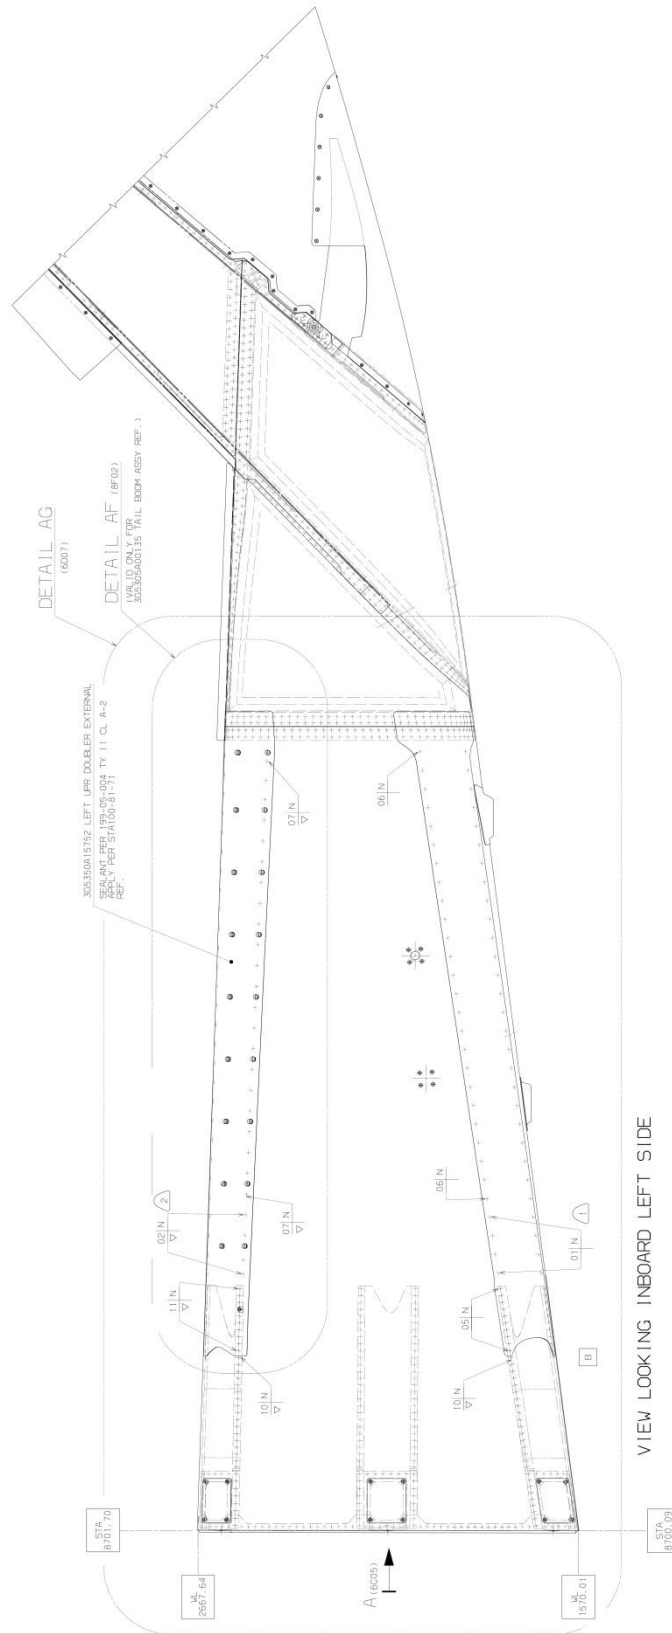
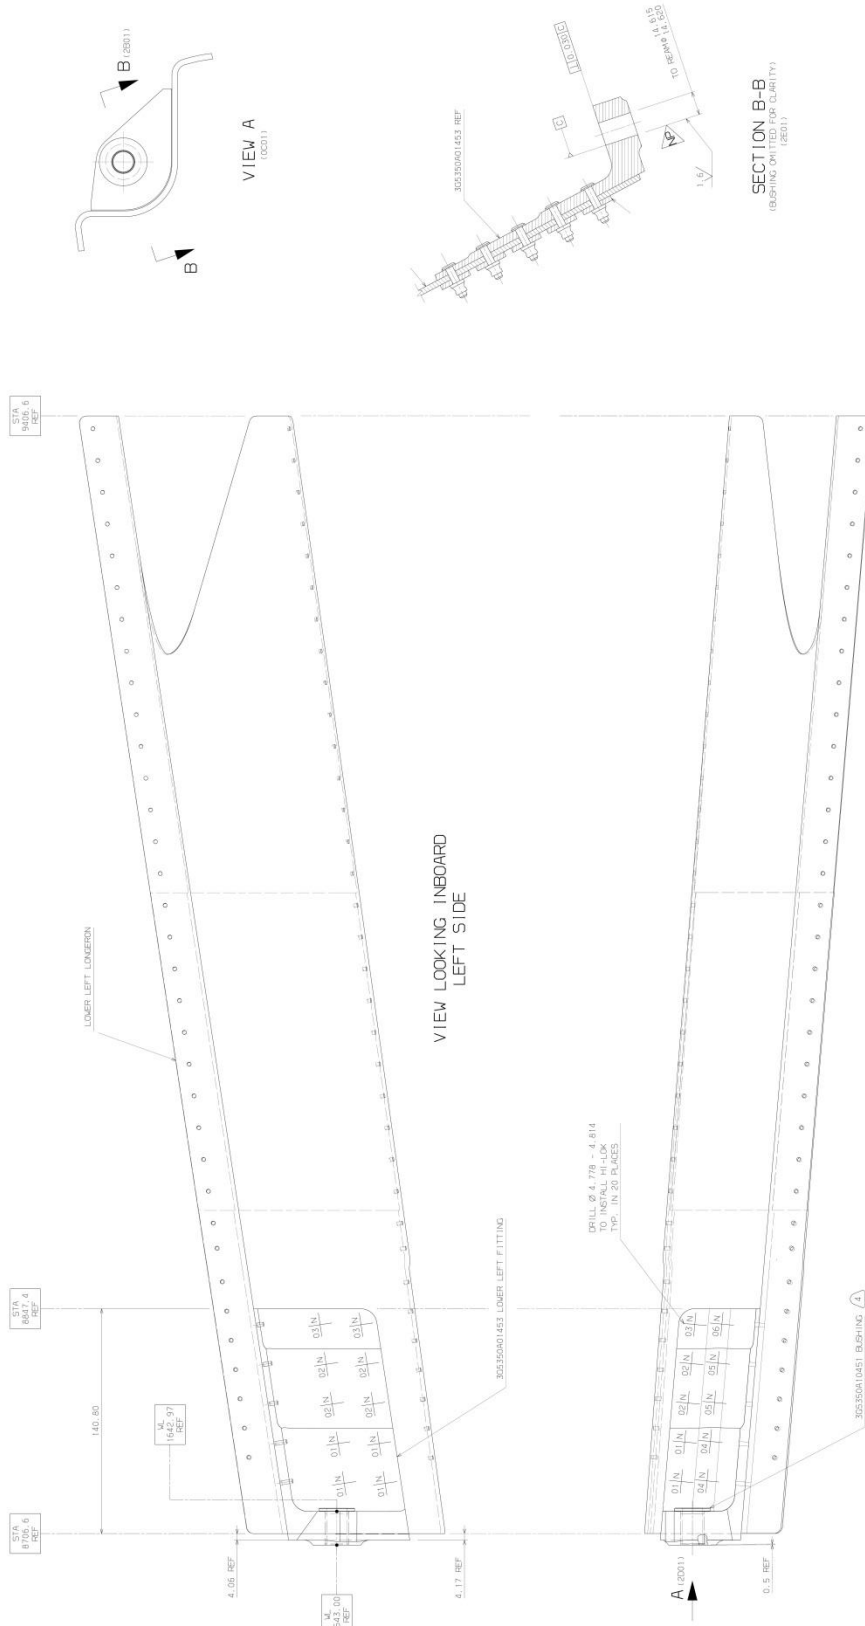

Figure 1
Figure 10
8. (**Only for Lower Longeron Assy replacement**) With reference to figures from Figure 1 to Figure 8, perform the following steps:
- 8.10. With reference to figures from Figure 1 to Figure 8, install the new Lower RH Longeron assembly using the indicated rivets.
- 8.11. With reference to figures from Figure 1 to Figure 8, complete the installation of the RH Longeron assembly and both the RH machined up P/N 3G5350A18854 and the RH machined down P/N 3G5350A19054.
9. (**Only for Lower fitting replacement**) With reference to figures from Figure 1 to Figure 11, perform the following steps:
- 9.10. With reference to figures from Figure 1 to Figure 11, complete the installation of the Lower Right Fitting and Lower Longeron assembly, if necessary.
Rivet list for figures from Figure 1 Figure 9 to Figure 10